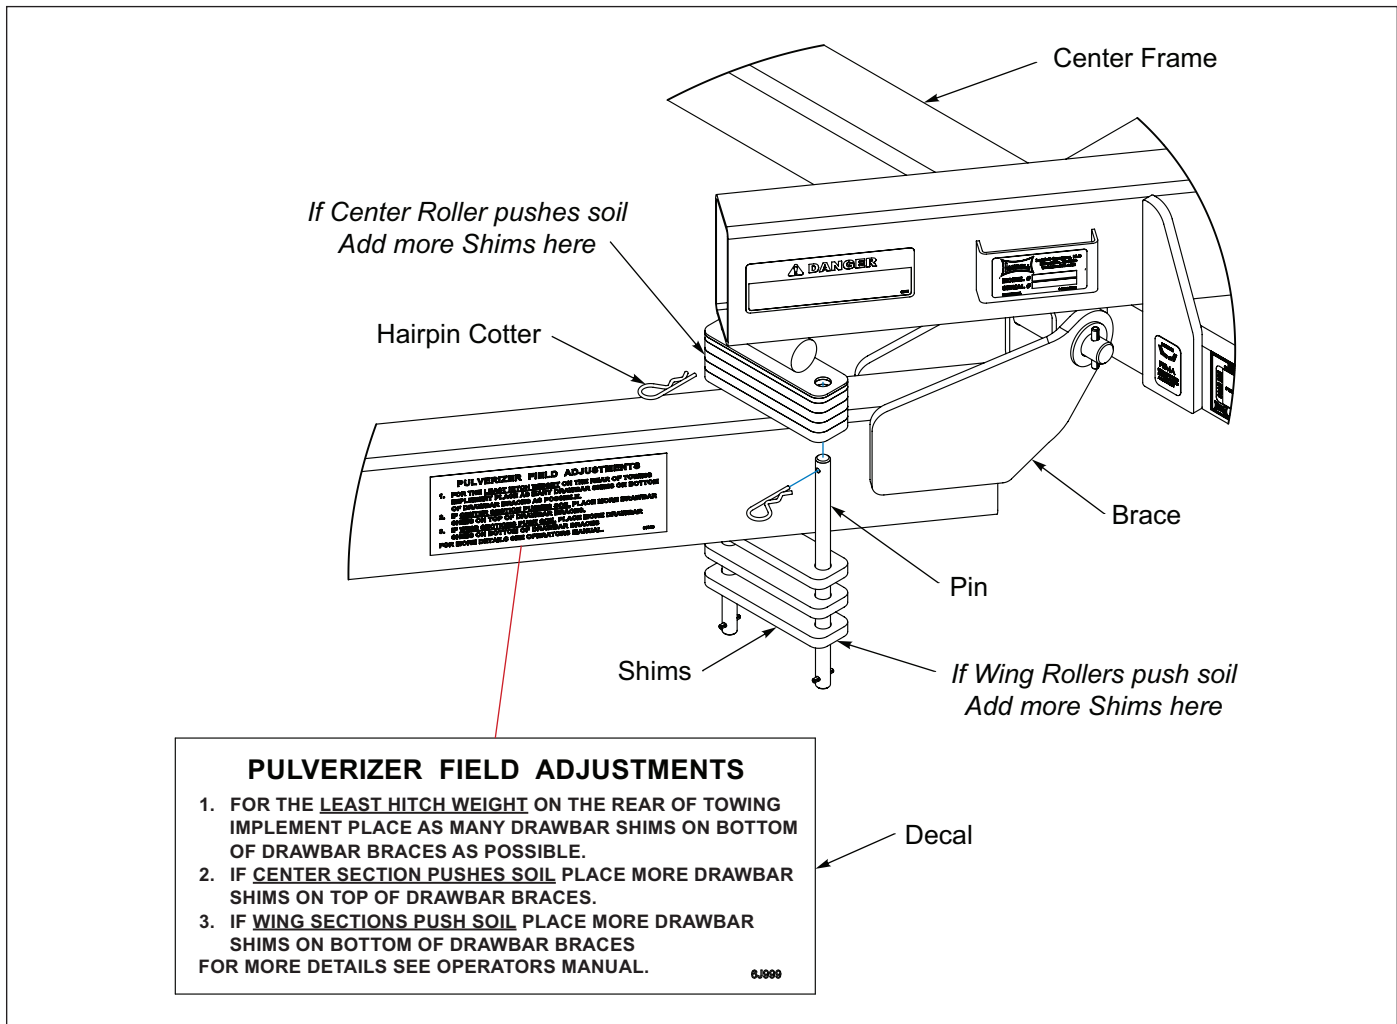

Figure 3-9: Drawbar Adjust
1. Place shims on top of the Brace if the center roller pushes soil and place Shims under the Brace if Wing Rollers push soil. The placement of Shims must be identical on both sides of Pulverizer. **See Figure 3-9.**